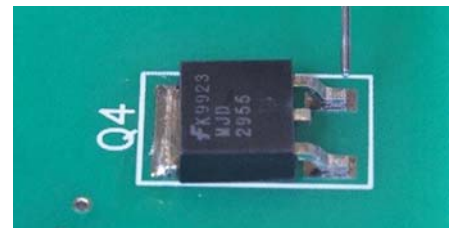

Figure 1 Apply Flux.
4. Apply flux to the thermal plane land and leads. (See Figure 1.)